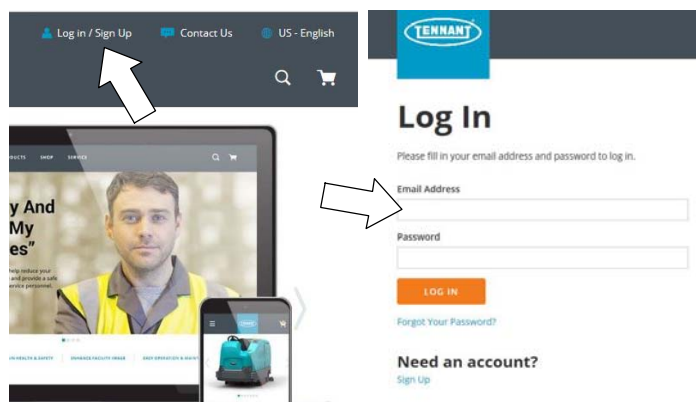

Fig. 29
1. Log in or Sign Up to create an account (Figure 29).